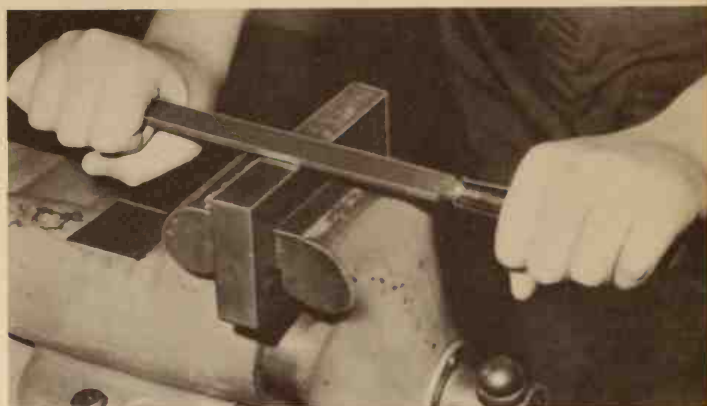

Fig. 4-37. Draw filing.
2. Holding the file steady, apply sufficient pressure to get a cutting action, and draw file toward you, Fig. 4-37. At the end of each stroke lift the file and return to the starting point. Use a new section of the file for each stroke. After one side of the file has been used up turn it over and use the other side. After both sides have been used, clean the file before repeating the process. This is important because a chip between the teeth will scratch the filed surface.